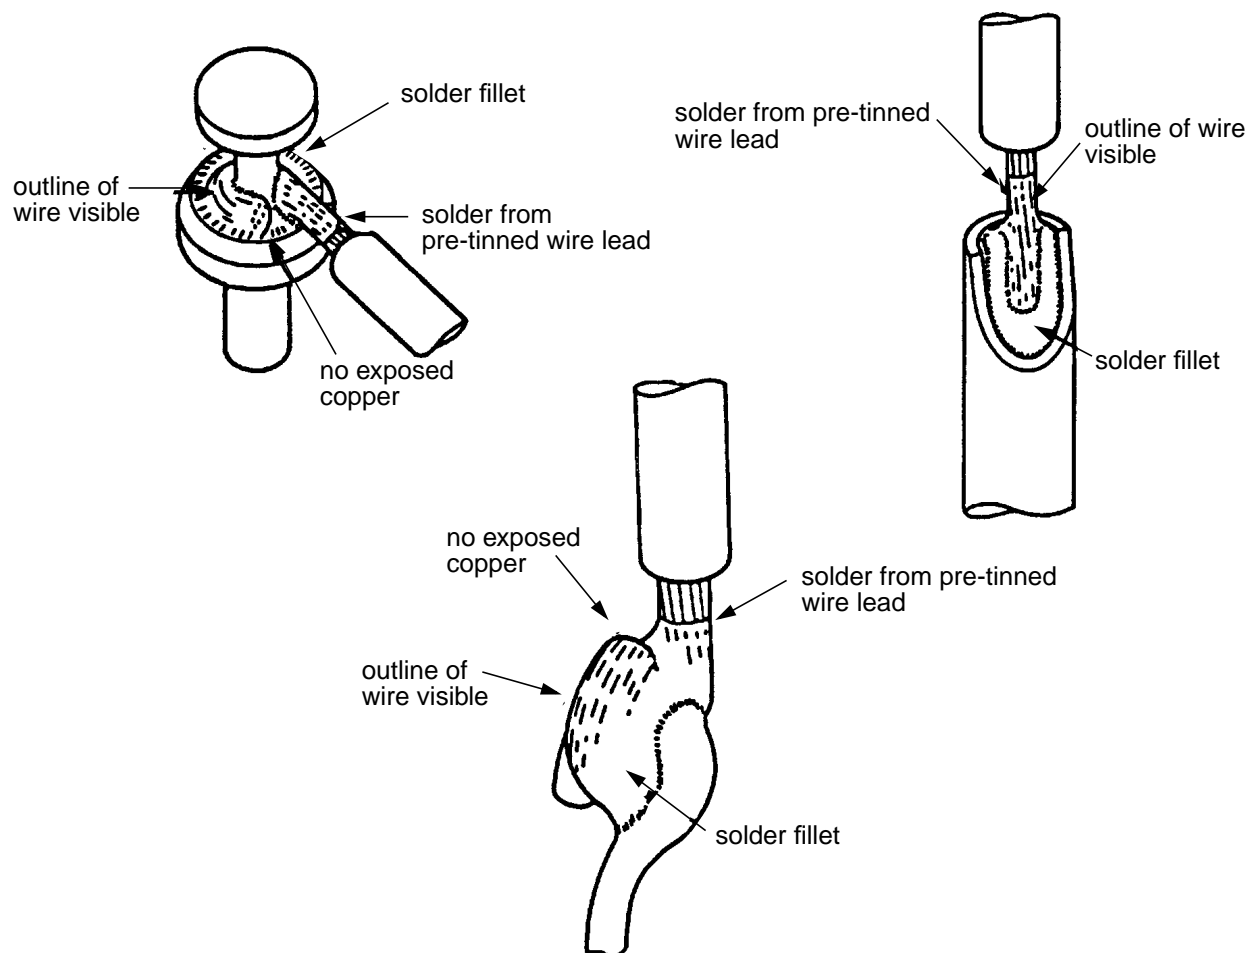

Figure 7 - Acceptable Solder Joints
- 6.3 Acceptable solder joints (see Figure 7) shall have a shiny surface, show a wetting action on all surfaces of the solder joint, a slightly concave fillet and a feather edge.